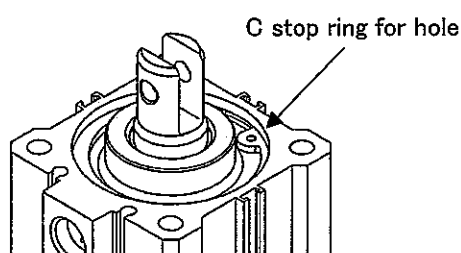

Fig. 7-18
#### (2) Removal of stop ring (Fig. 7-18)
- (3) Mounting of stop ring (Fig. 7-18)